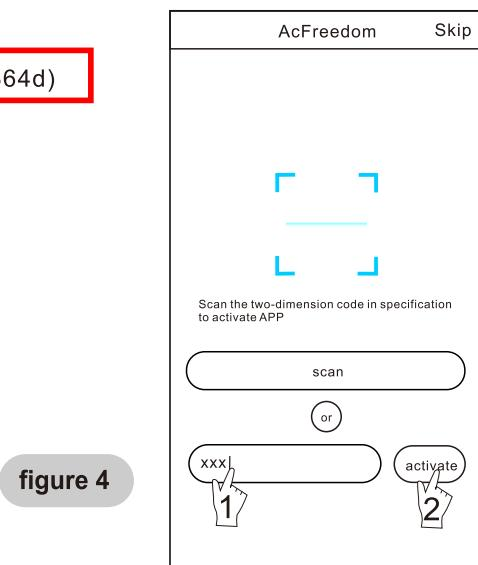

figure 4
2. By entering the activation code **(6364d)** in the area prompted by “enter activation code” (see fig.4)